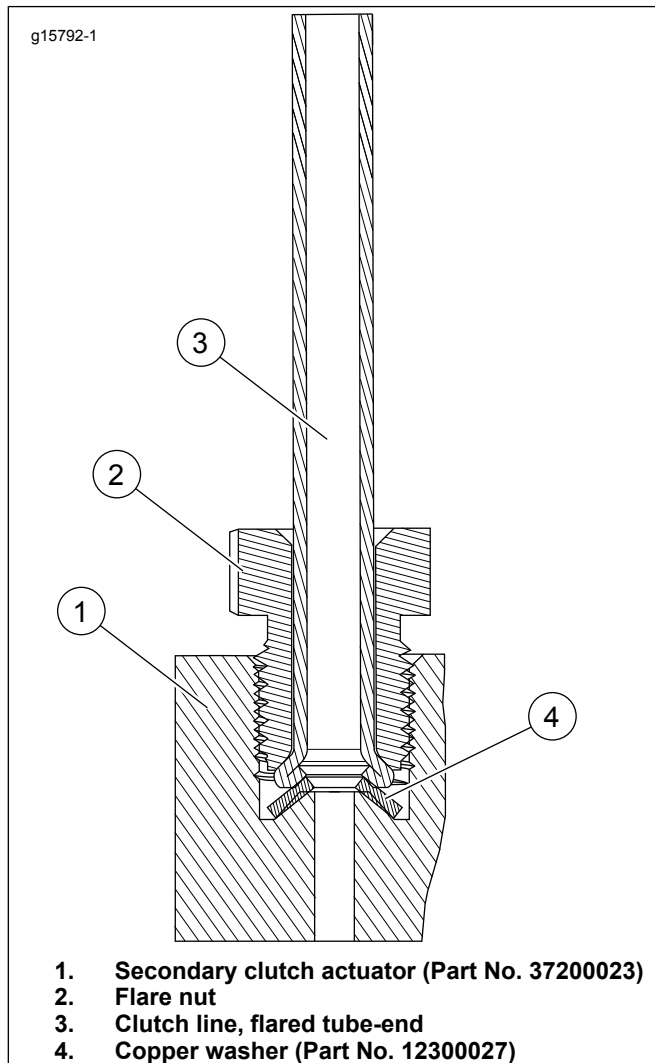

Figure 2. Copper Washer Orientation
2. See Figure 2. Hold secondary clutch actuator upright. Install copper washer (Part No. 12300027) in the actuator cavity. Allow copper washer to self-center.